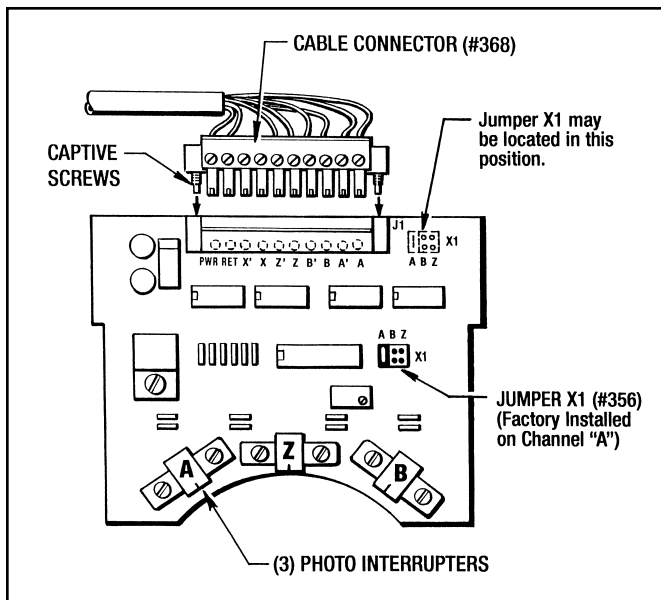

Figure 5.3 - Circuit Board Connector
1. Take out the (4) Screws (#225) and remove the Top Cover (#372) and the upper Gasket (#19) from the Upper Enclosure (#18). This gasket is reusable.
3. Loosen the (2) captive screws in the Cable Connector (#368) and unplug it from the Circuit Board (#355). (See Figure 5.3)
5. Remove the (2) Cap Screws (#77) and take the Upper Enclosure (#18) and lower Gasket (#19) off of the Disc Housing (#17). This gasket is also reusable.
7. Remove the (4) Screws (#76) and pull the Disc Housing off the *Posidyne* mounting face. Sizes 01, 1.5 and 02 also has (4) Lockwashers (#257).